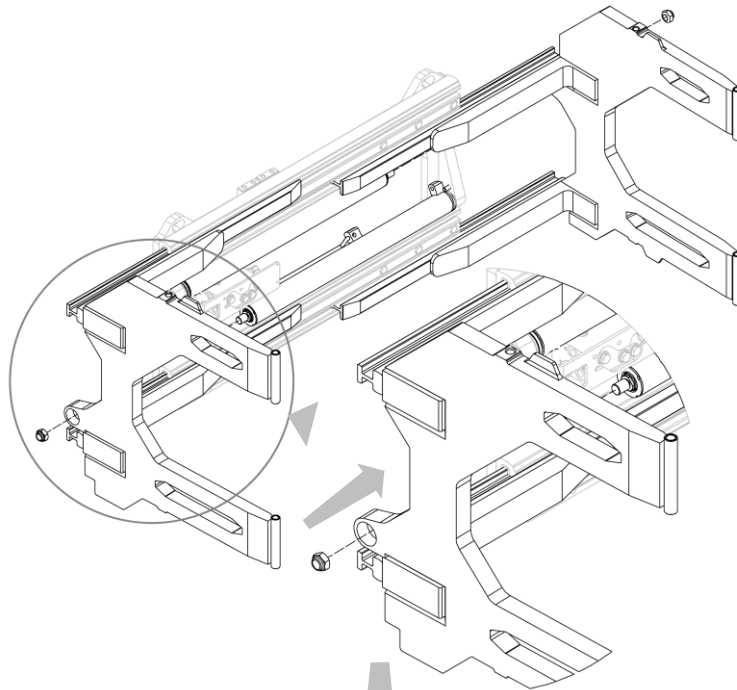
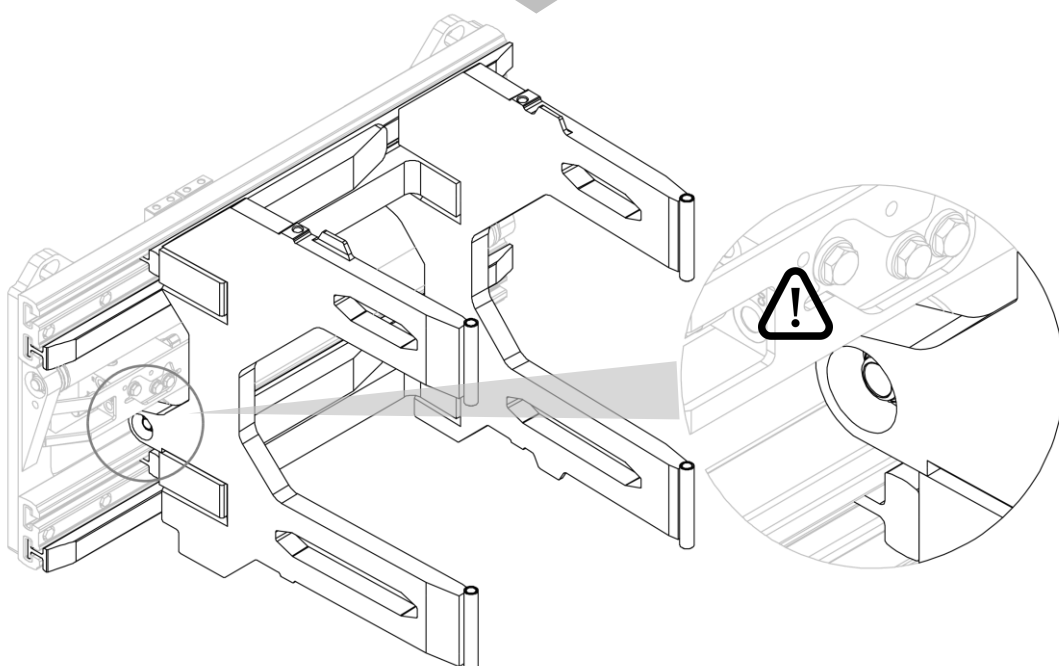

Figure 13
Figure 14
2. Insert the fork assembly, one at a time, into their appropriate housings and tighten the nuts that secure them to the cylinders (see *Figure 13* and *Figure 14*).